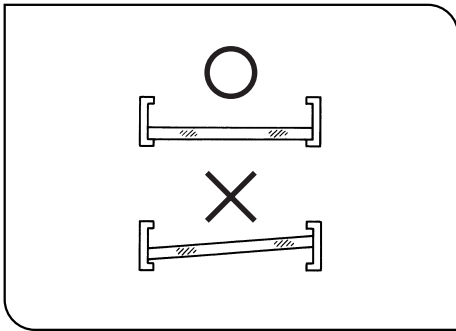

Fig. 39
- Ⓞ Wait until the filters have cooled down enough before replacing a filter. Take out the filter holder ① and insert the required filter ②.
- ★ Insert the filter so that it comes at the bottom without tilting, as shown in Fig. 39. If the filter is tilted or not inserted to the bottom, it may drop from the filter holder.